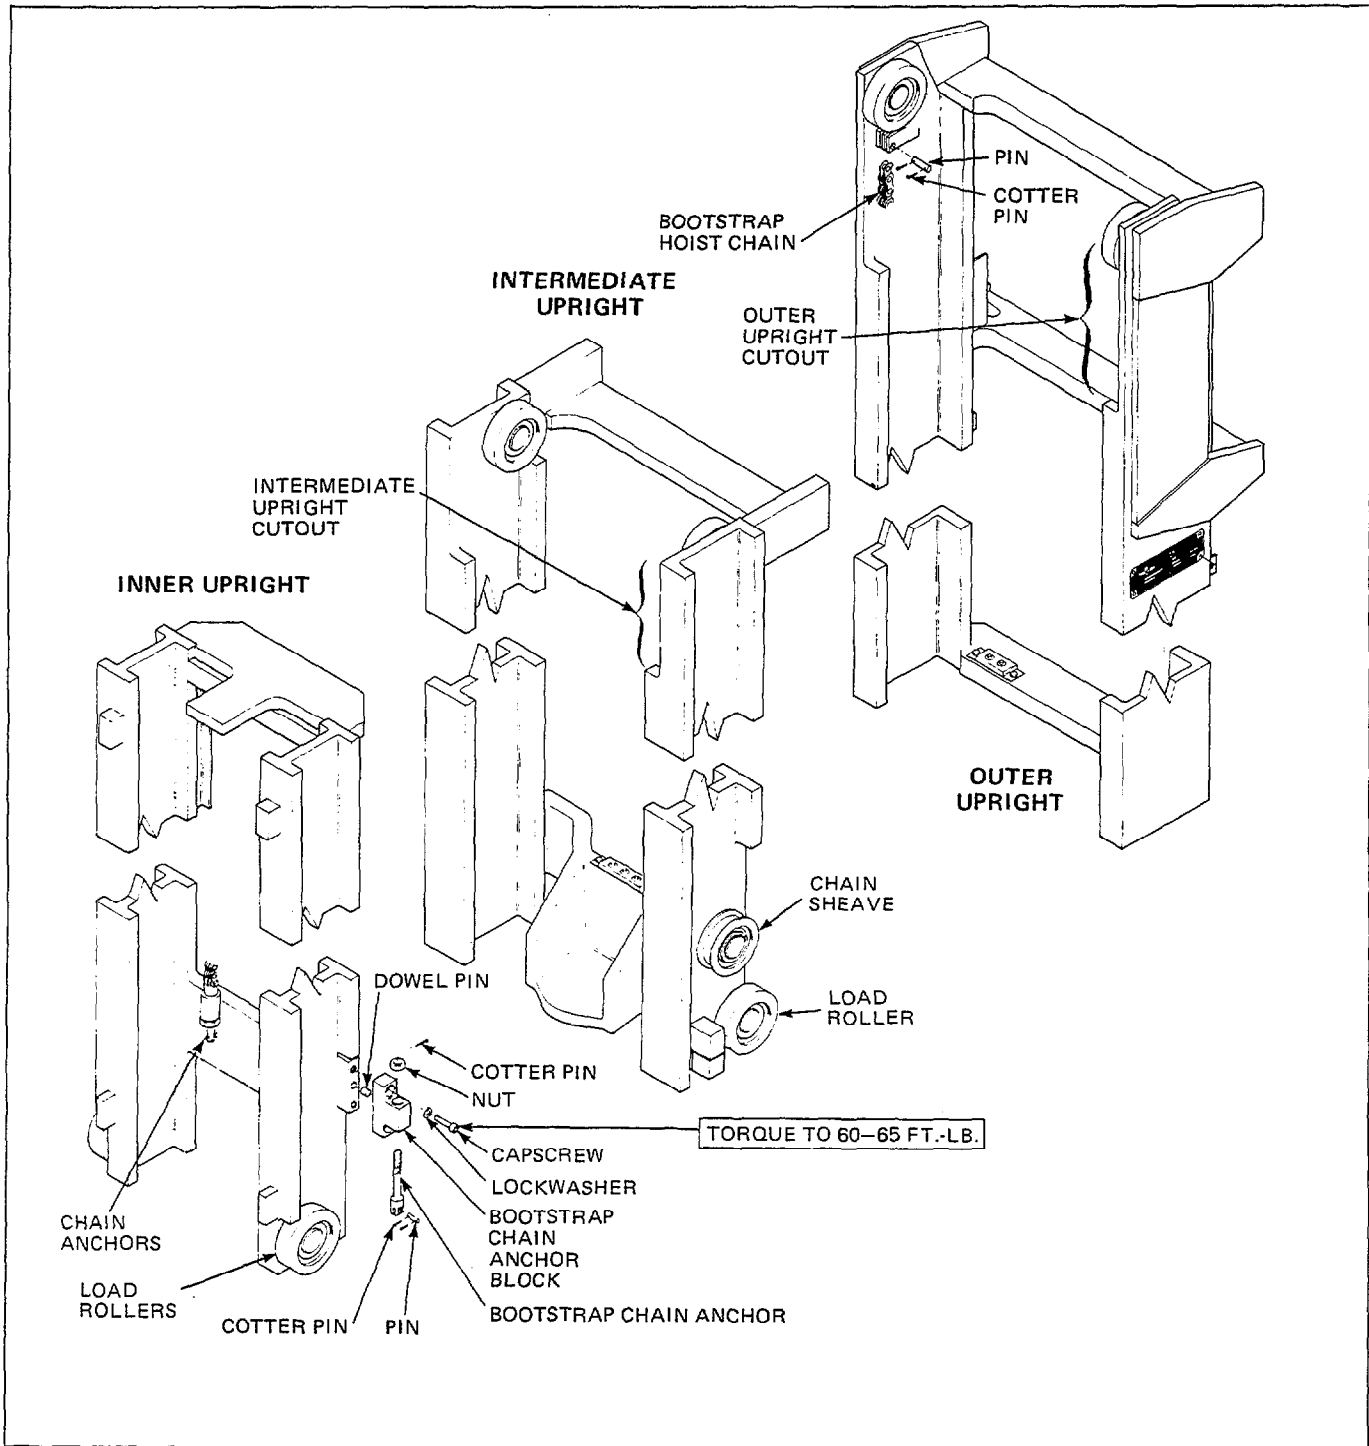

Figure 34. Exploded View of Mast Upright Assembly
Refer to Figure 34.
2. Assemble the upright load rollers onto their stub shafts using an appropriate number of shims. See Figure 34. These shims should be installed to provide a clearance no looser than 0.030 inch at the tightest point throughout the travel of the member. Refer to Section 5.3-12 for load roller shimming.
3. Assemble the mast chain sheaves on their stub shafts at the base of the intermediate upright. See Figure 34.